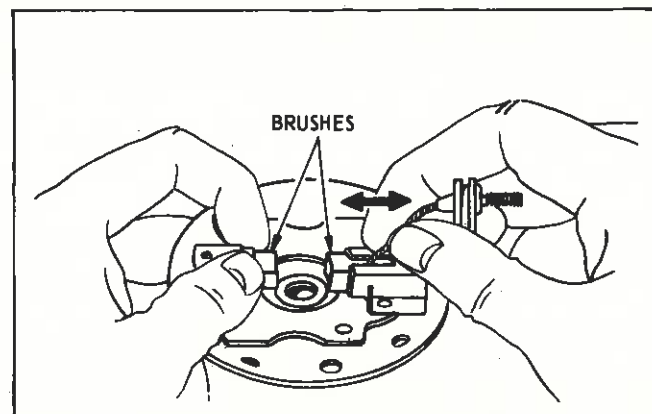

Fig. 58 — Checking Brushes
- F. Brushes sticking in brush holders or worn brushes. See Fig. 58.
- E. Brushes sticking, etc. See Fig. 58.
Before removing armature from end cap, check brushes for freedom of movement. If brushes are found to be sticking in their retainers, this must be corrected, or poor starter motor performance will result. Fig. 58. If brushes are worn to a length of 1/4" (6.4 mm) or less, the brushes should be replaced. Check brush springs for proper tension (sufficient force to keep brush in firm contact with commutator).